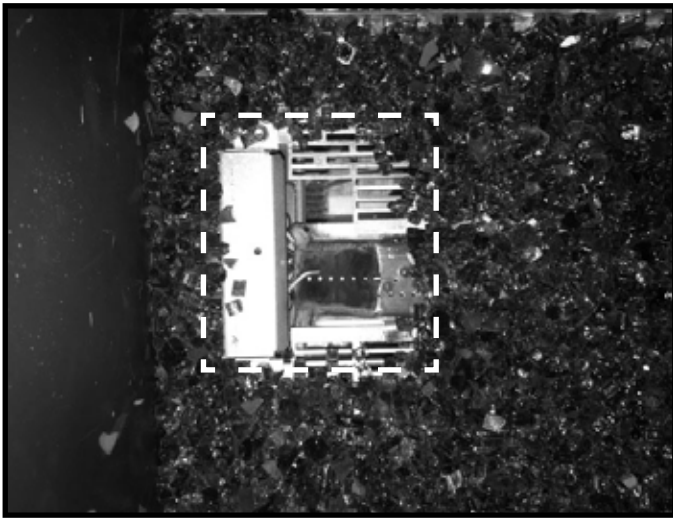
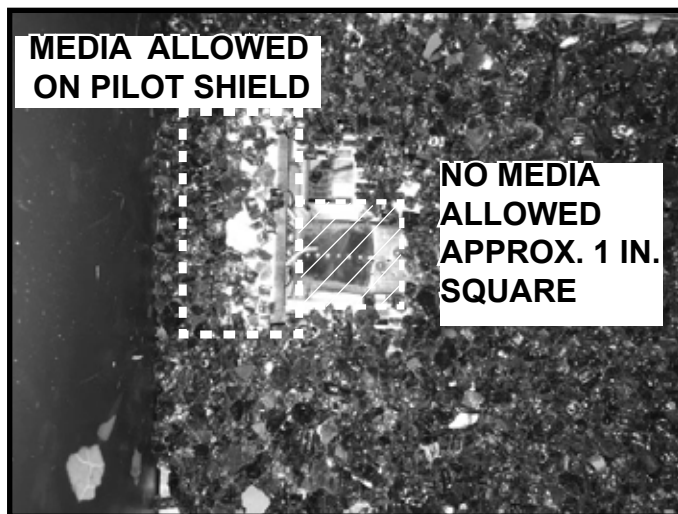

Figure 4. Media Installed with Media Placement Jig Removed
Figure 5. Pilot Shield Media installation.
6. Place the media set aside in Step 1 over the pilot shield and areas shown in Figure 4 uncovered by removing the media placement jig. See Figure 4. **DO NOT allow any media in the 1 inch area shown in Figure 5.**